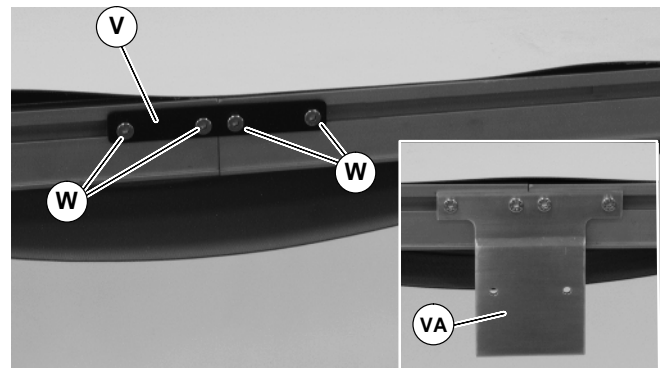

Figure 7
4. Join conveyor sections and install connector brackets (V of Figure 7) or connector/mount brackets (VA) and screws (W) on both sides as indicated. Tighten screws to 60 in-lb (7 Nm).